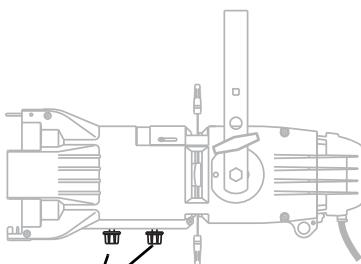

Figure 6
- Step 1: Loosen the beam focus knob(s) on the underside of the barrel as shown in Figure 6.